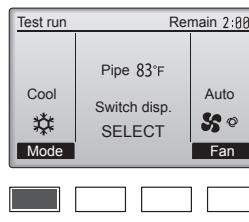

Fig. 7-5
① Press the [F1] button to go through the operation modes in the order of “Cool” and “Heat”. (Fig. 7-5)